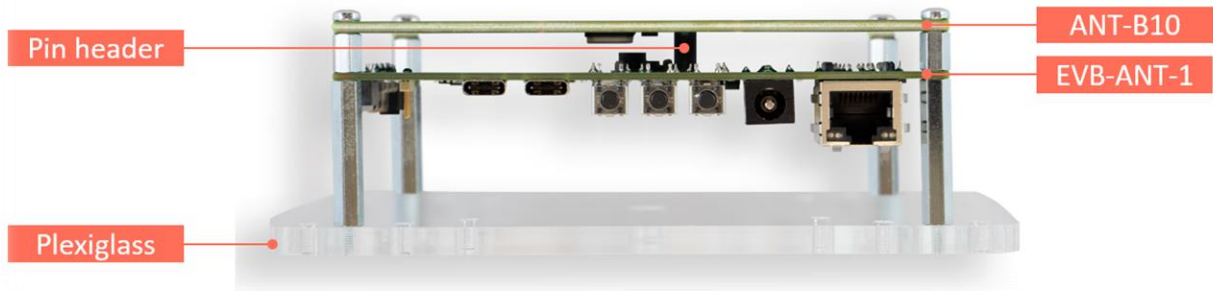

Figure 2: Assembled XPLR-AOA-3 kit showing EVB-ANT-1 and ANT-1 headers
1. Connect to the ANT-B10 board to the EVB-ANT-1 board. Physically align the boards and gently plug the 20-pin, male and female, header connectors together. Figure 2 shows the location of the header connectors on each board.